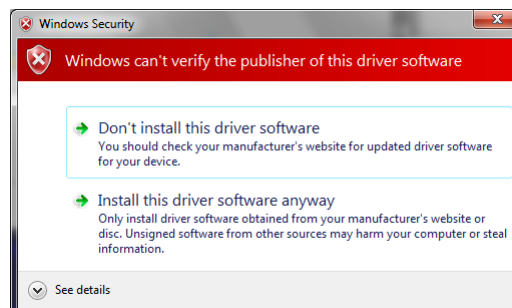

**Figure 12. Progress Bar Screen**
8. A progress bar appears, as shown in Figure 12; this step takes a few minutes.